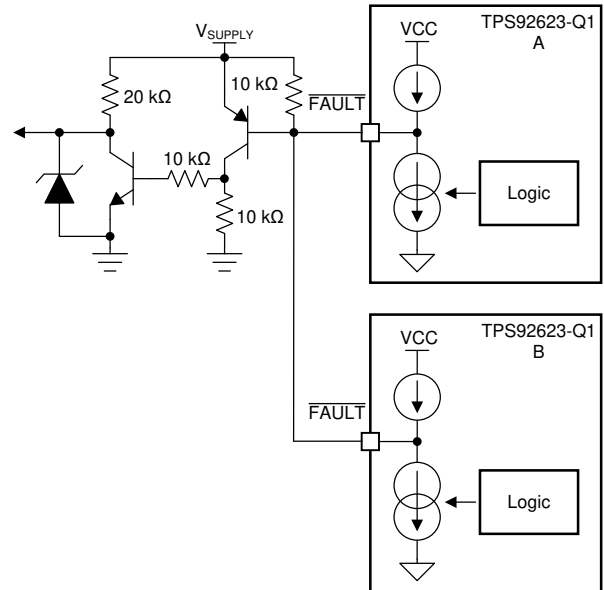

图 7-7. FAULT Bus for One-Fails-Others-On Application
TPS92623-Q1 (B) detects any kind of LED fault and pulls low the $\overline{\text{FAULT}}$ pin. The low voltage on $\overline{\text{FAULT}}$ pin is detected by upper side TPS92623-Q1 (A) because the $\overline{\text{FAULT}}$ pins are connected of two devices. The upper side TPS92623-Q1 (A) turns off all output current for each channel as a result. If the $\overline{\text{FAULT}}$ pins of each TPS92623-Q1 are all connected to drive the base of an external PNP transistor as illustrated in 图 7-7, the one-fails - all-fail function is disabled and only the faulty channel device is turned off.